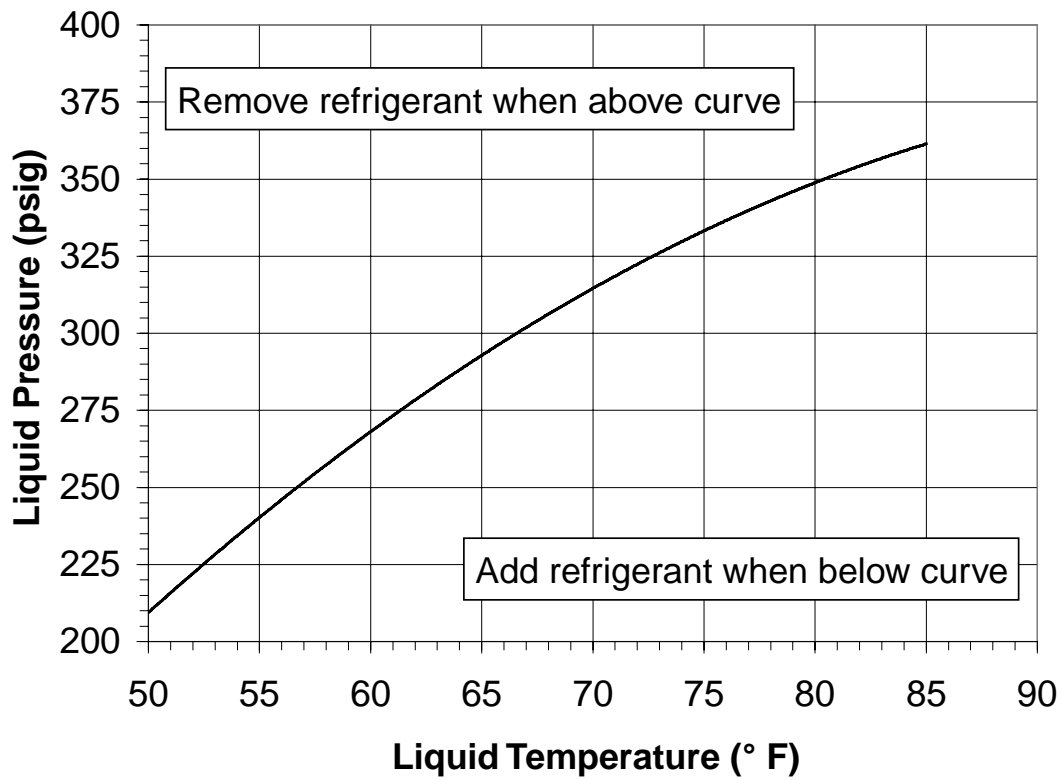

Figure 10. Heating Charging Chart
2. Weigh in the proper charge per Table 2, using the Heating Charging Chart (Figure 10, page 15) as a guide. Unit charge MUST be verified in cooling season.